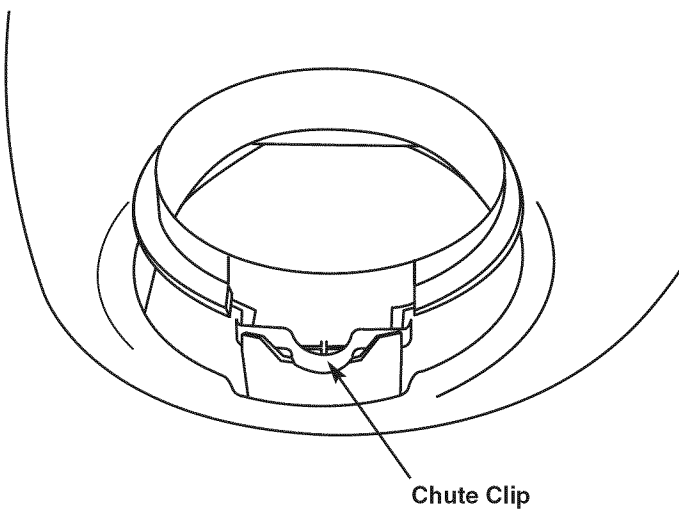

Figure 3
- Ensure that the chute clip is in its cradle (see Fig. 3).